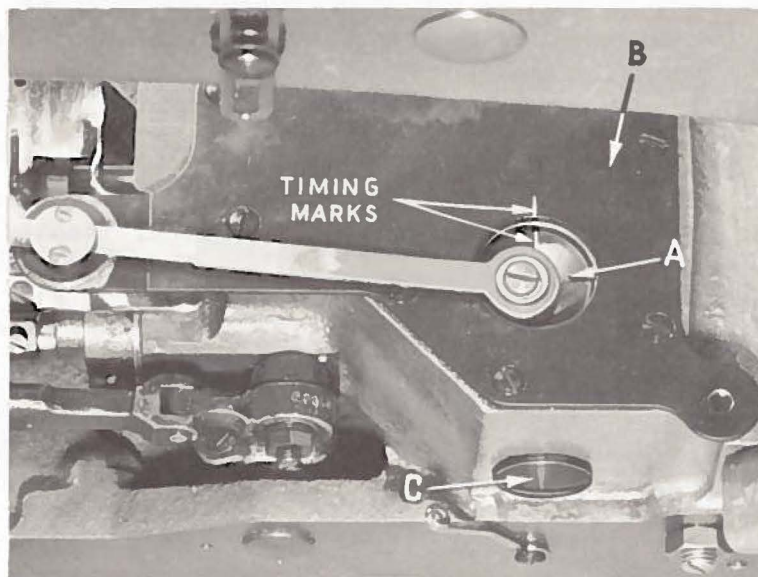

Fig. 17
With the cloth plate removed and the needle bar at the bottom of its stroke, the timing mark on the face of the vertical drive crank (A, Fig. 17) must line up with the timing mark on the oil reservoir top cover (B). This can be accomplished by removing the access plug screw (C), insert screwdriver and loosen screws in the driven gear on the vertical drive crank, rotate vertical drive crank by hand to align the timing marks. Retighten screws in driven gear securely and replace plug screw (C).